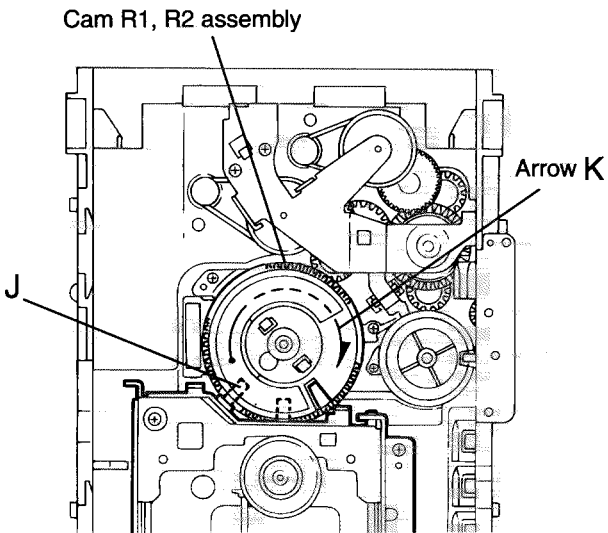

Fig.11
Removing the CD mechanism (See Fig.11 and 12)
1. For dismounting only the CD machanism without removing the CD mechanism assembly, align the shaft "J" of the CD mechanism assembly to the position shown Fig.11 while turning the cam R1 and R2 assembly in the arrow direction "K" .